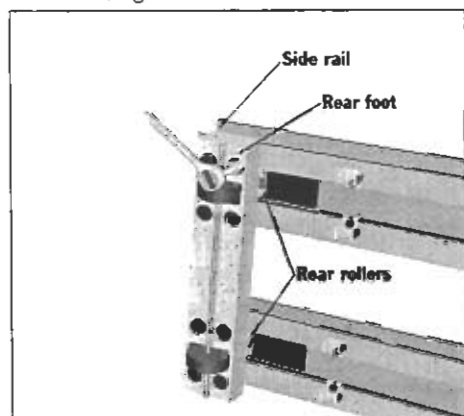

Figure 10
6. Use the 7/16-inch socket with extension to remove the eight bolts that secure the rear foot to the side rails (Figure 10).